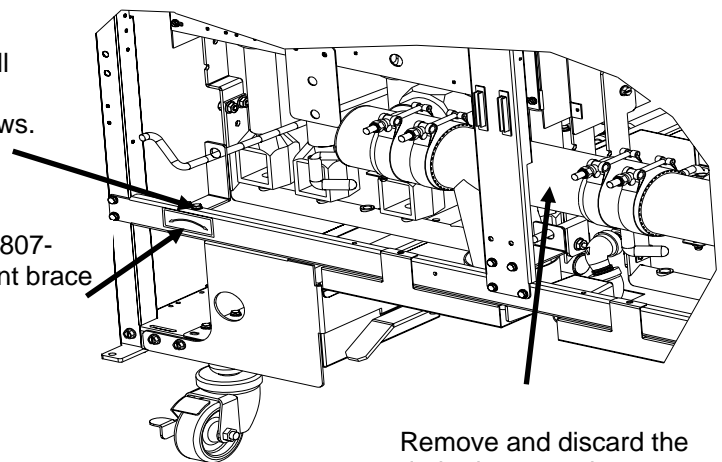

Figure 3: Front View
6. Remove and discard the existing drain dump tube section from the drain manifold. See Figure 3.
8. Drill two 5/32" clearance holes in the horizontal brace. See Figure 3.
9. Slide bracket onto the dispose handle rod. Attach the bracket with the enclosed screws. See Figure 3.
10. Attach label 807-2742 (Oil Disposal) to front cross brace. See Figure 3.